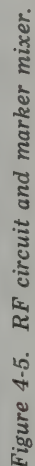

Figure 4-5. RF circuit and marker mixer.
d. After a marker circuit has been selected with one of the switches mentioned above, the markers are applied through C501 to amplifier V504A where they are amplified (fig. 4-5). The markers are then sent through C502 into the shaping network of S510 and into the birdy-by-pass amplifiers V504B and V504C. After further shaping and amplification in this narrow bandpass circuit, they are applied to MARKER WIDTH SIZE R533. They are then coupled through C516 to MARKER ADDER OUT J503 for subsequent use.